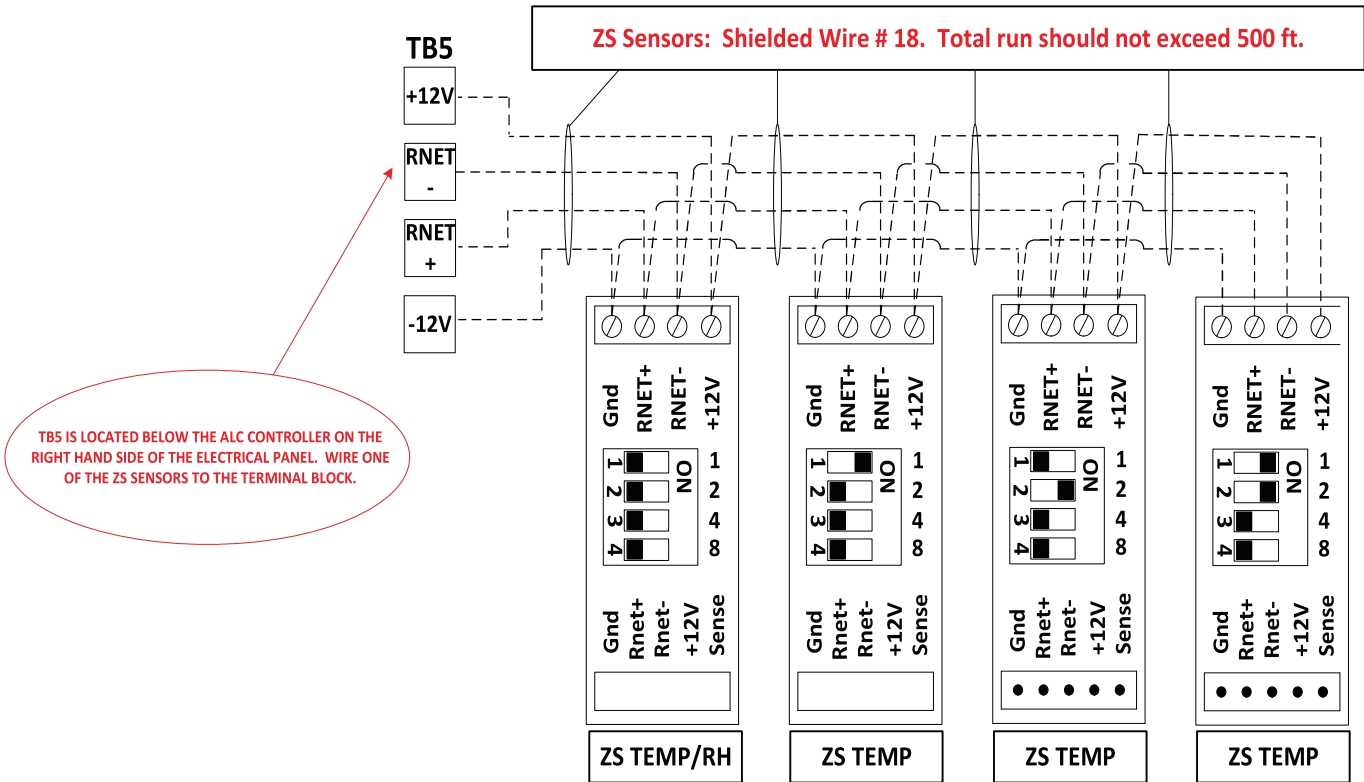

Fig. 69 – ZS Sensors –Wiring and Set Up
See Fig. 69.
- Standard programming can accept up to (5) ZS sensors.
- Room Sensors must be wired in a “daisy chain” configuration. See Fig. 69.